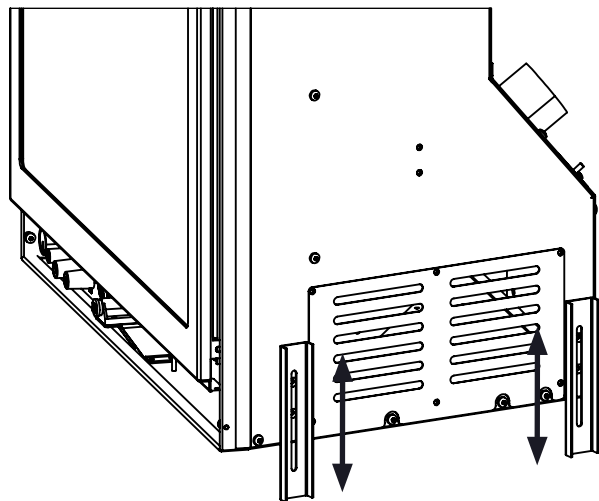

Figure 34: Levelling legs position.
8. Using a T20 driver, adjust the levelling legs to ensure the unit is level and high enough if a base shelf and/or riser is to be installed. There are two (2) levelling legs on each side (shown in Figure 34).